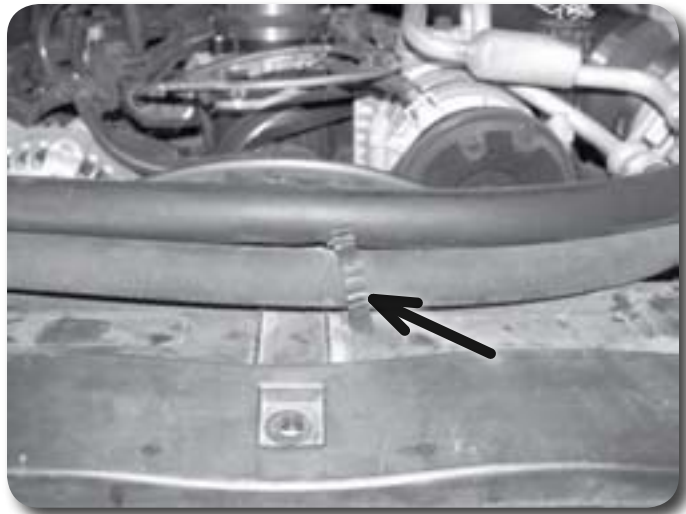

Figure 9
11. If equipped, remove the AC line from the plastic hose clip on the upper fan shroud **Figure 9**.